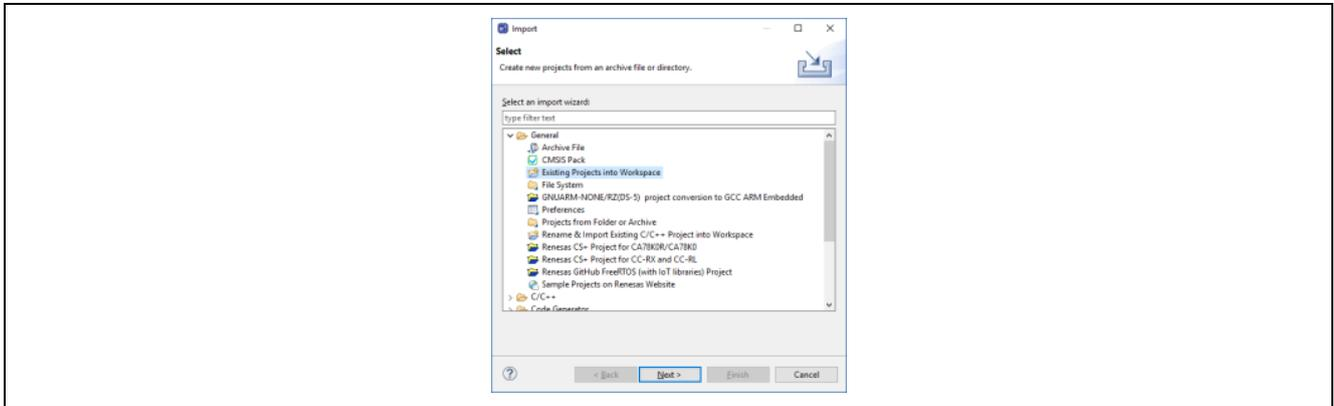

Figure 3-3. Import sample project (1)
4. Double-click **General** and select **Existing Projects into Workspace** as shown in Figure 3-3: